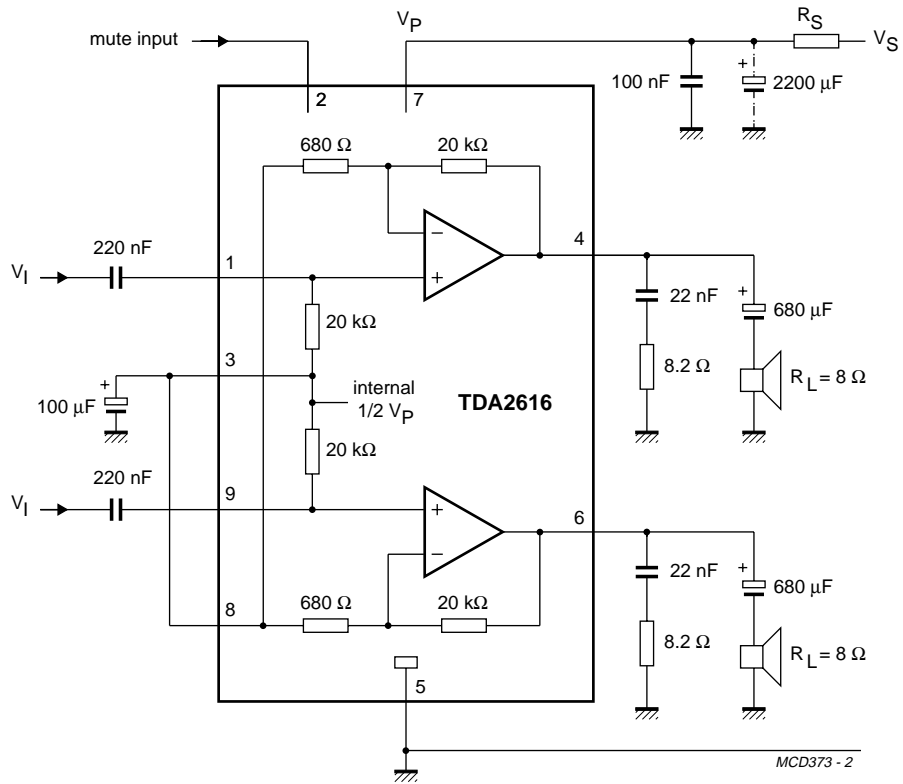

Fig.5 Test and application circuit with asymmetrical power supply.
- $V_{\text{P}} = 24 \text{ V}$ ;  $R_{\text{L}} = 8 \Omega$ ;  $T_{\text{amb}} = 25 \text{ }^\circ\text{C}$ ;  $f = 1 \text{ kHz}$ ; asymmetrical power supply  $I_{\text{MUTE}} < 30 \mu\text{A}$ . See Fig.5